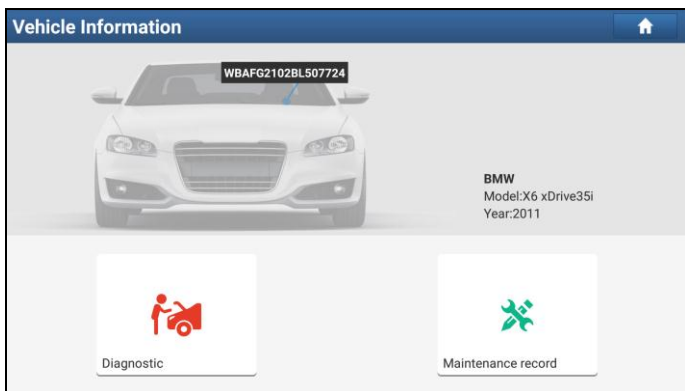

Fig. 5-5
- A. If the VIN can be found from the remote server database, a screen similar to Fig. 5-5 displays:
- If the VIN scanned is incorrect, tap the result field to modify it and then tap “OK”. If the VIN exists on the remote server, the system will enter the vehicle information screen. See Fig. 5-5.